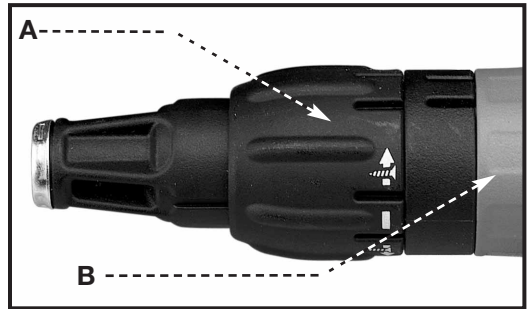

Fig. 2
1. Pull the Depth Stop Assembly (A) Fig. 2 from the clutch housing.
4. Replace the Depth Stop Assembly (A) Fig. 2 and adjust the depth stop (see "ADJUST DEPTH STOP").